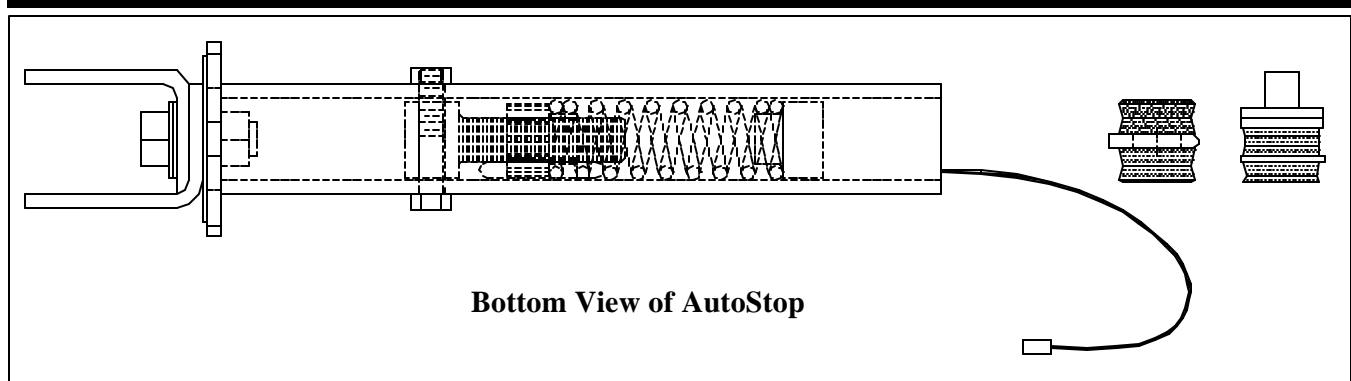

Figure 16
7. Set the movable pulley assembly next to the AutoStop tube, and next to it place the stationary pulley assembly. (Figure 16) You are now ready to route the cable around the pulleys.
8. Pull the cable through so you have all the slack at the back where you will be wrapping the cable. The AutoStop tube should still be positioned with the tongue flat side towards you. (Figure 16)